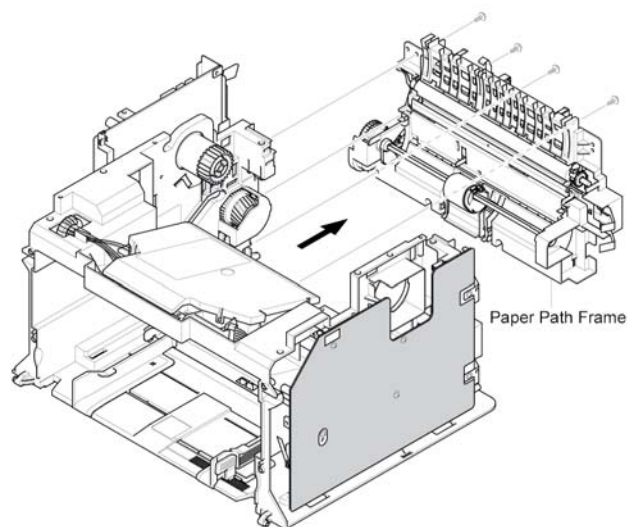

Figure 1
5. Remove 4 screws securing the paper path frame and remove it in the direction of the arrow, Figure 1.